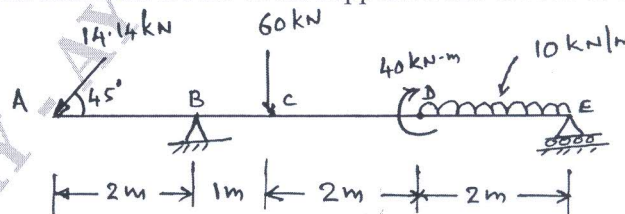

Fig.Q5(b)
b. Determine the support reactions for the beam supported and loaded as shown in Fig.Q5(b).